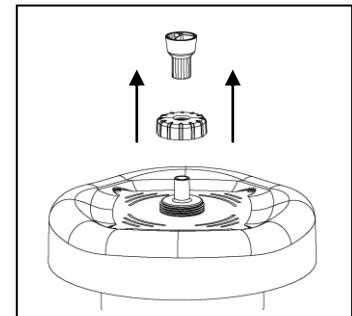

Fig. 6
2. Remove the fountain head and the top locking nut. Then remove the top cover. Fig. 6